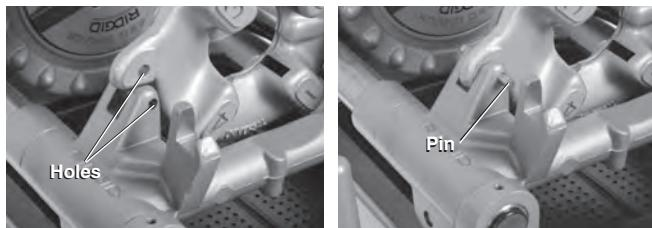

Figure 24 – Retaining LH Die Head in Place
1. Place a $\frac{5}{16}$ " pin, 2" long through the holes in the carriage rest and left hand die head to retain in place (see *Figure 24*).